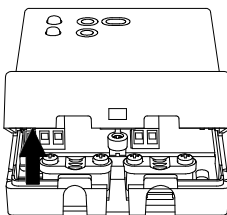

Fig. 3
- 3 Rotate the cable lid and remove it completely (Fig. 3).